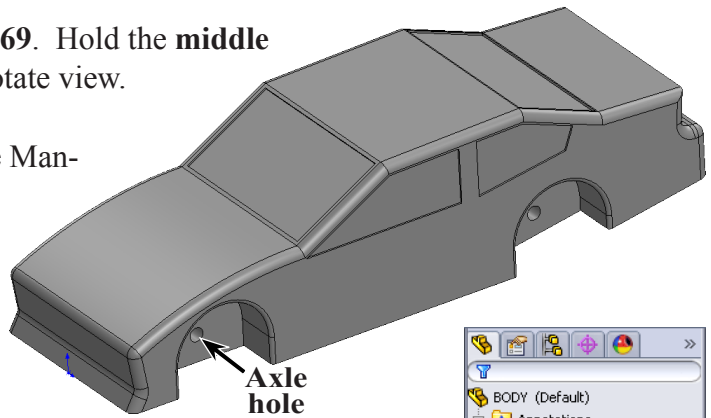

Fig. 69
Step 1. Rotate view to view **axle holes**, **Fig. 69**. Hold the **middle mouse button** (wheel) and drag to rotate view.